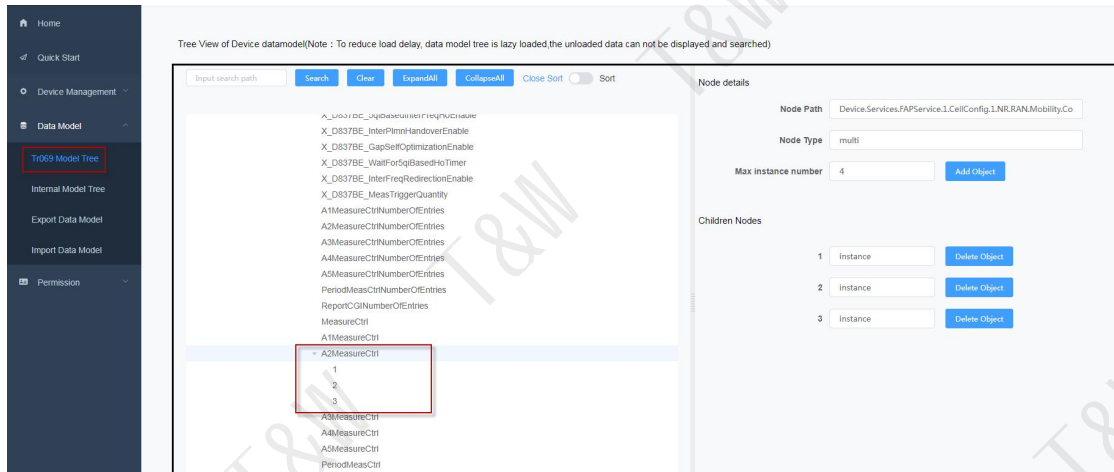

Figure 2-17 A2 event _
1. The base station starts inter-frequency / inter-system measurement is triggered by the A2 event, as shown in Figure 2-17 . There are 3 sets of configurations for the A2 event , which are used in different scenarios: